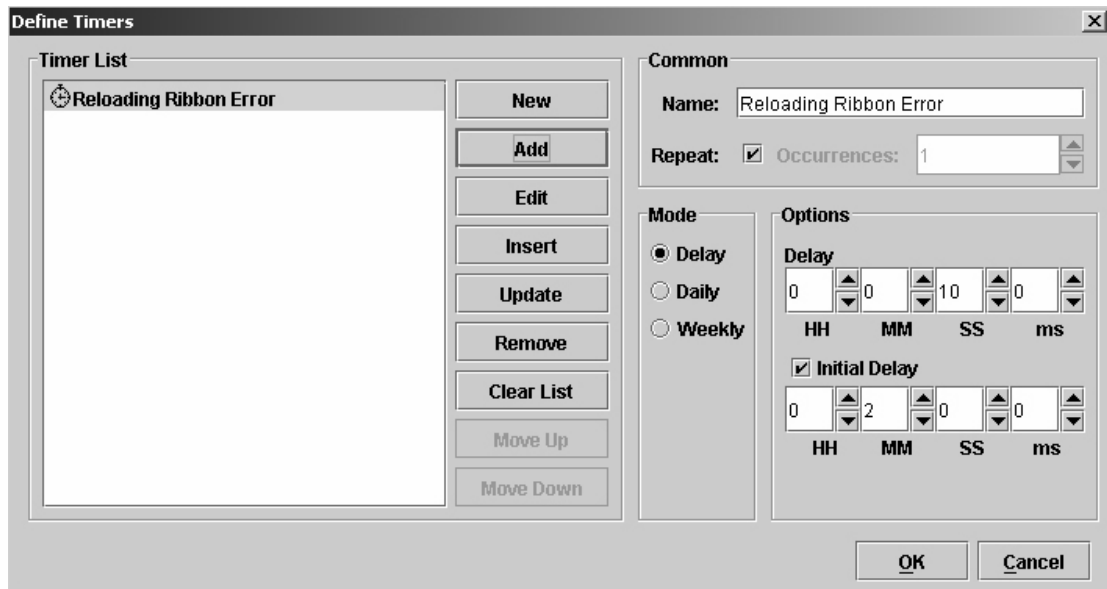

Figure 42. Setting a Delay Timer
6. Click **Add**. The Ribbon Reloading Error delay timer is added to the Timer list. See Figure 42.